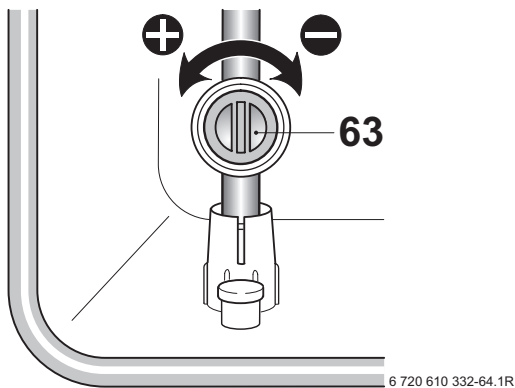

Fig. 44
- ▶ Adjust the gas flow restrictor (63) to obtain the CO₂ level given in Table 14. Refer to fig. 44.